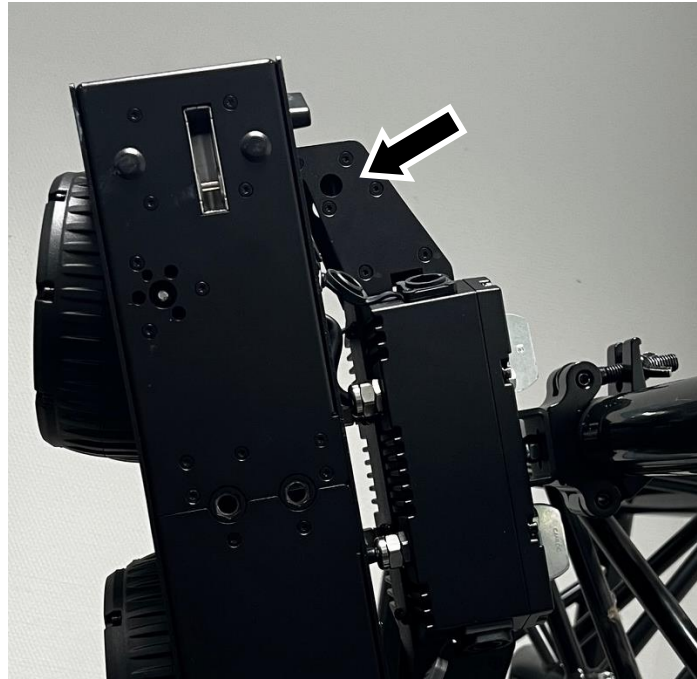

Figure 4. Safety cable attachment point
2. See Figure 4. Fasten the safety cable to the attachment hole on the rear assembly of the fixture. Check that the safety cable will secure the fixture if the primary attachment fails.